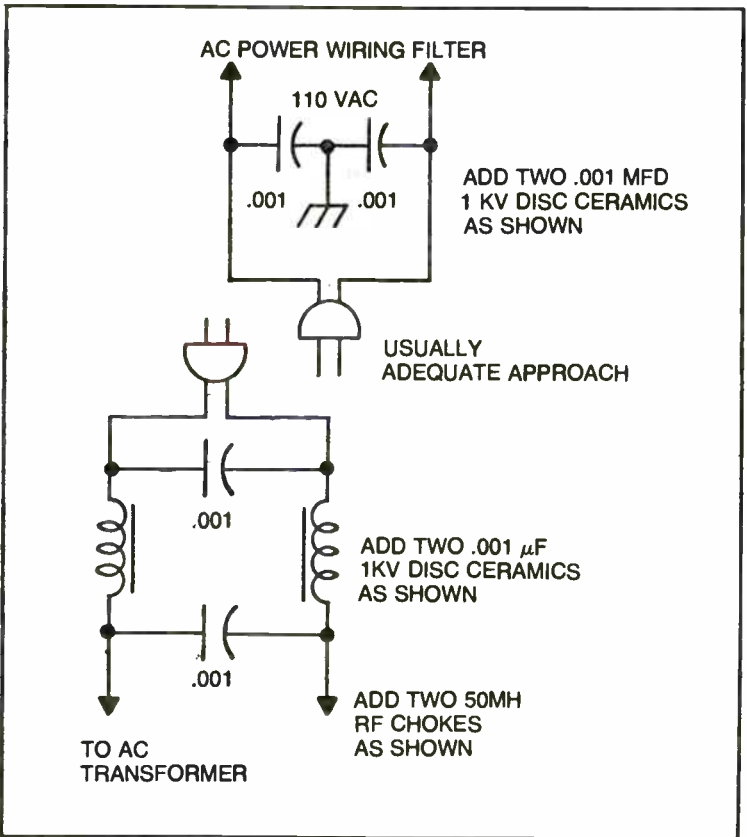

Fig. 20-7. Two methods of installing an AC power line rf filter.
**Check TV Receiver System.** An AC power line rf filter should be installed to determine if the rf from the transmitter is entering the TV via the power cord. (A line filter may be either purchased or one may be constructed by following the schematic shown in Fig. 20-7.
**Power Line Filter.** RF may be entering the audio device through the AC power line. Several power line filters are commercially available. If necessary, a power line filter like the one shown in Figure 20-7 may be constructed, placing the filter as close as possible to the point where the AC cord enters the amplifier.